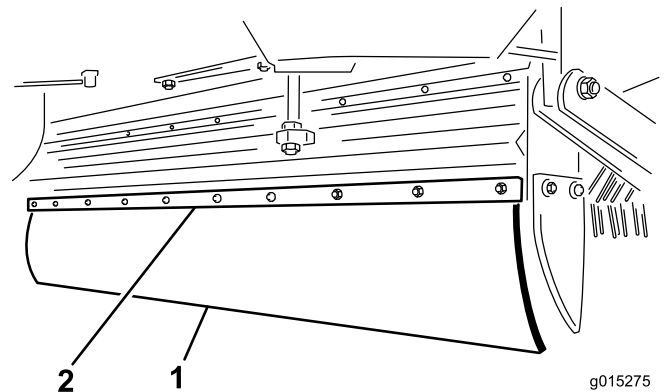

Figure 30
1. Remove the 10 bolts, washers, and nuts on the mounting flap and flap retainer (Figure 30).